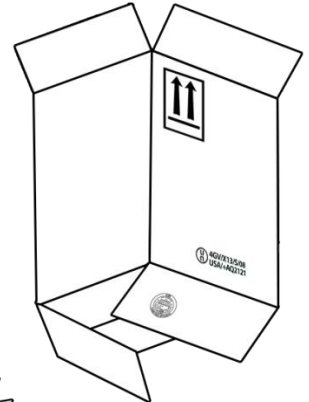

Figure 1
1. Fold flaps on bottom of carton. (See Figure 1)